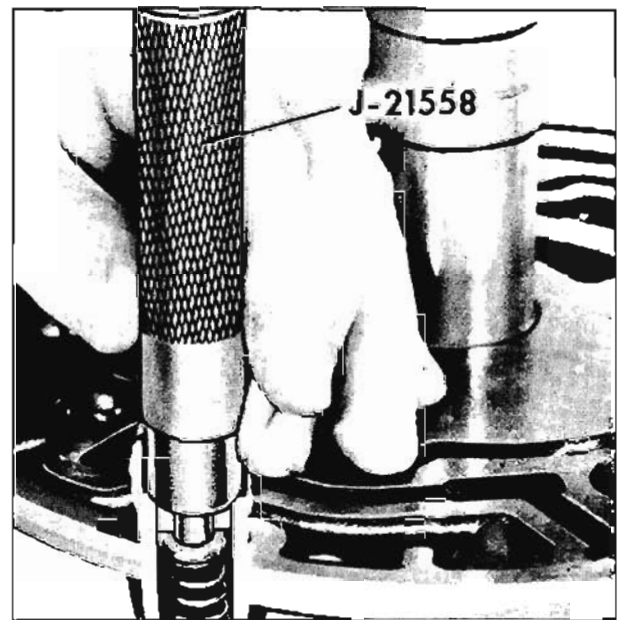

Fig. 6-344 Installing Cooler Bypass Valve and Lube Blow Off Tube
8. Install spring, valve and seat into cooler bypass valve and lube blow off valve. Using Tool J-21558 press seat into bore of pump body until tool bottoms on face of pump. (Fig. 6-344)